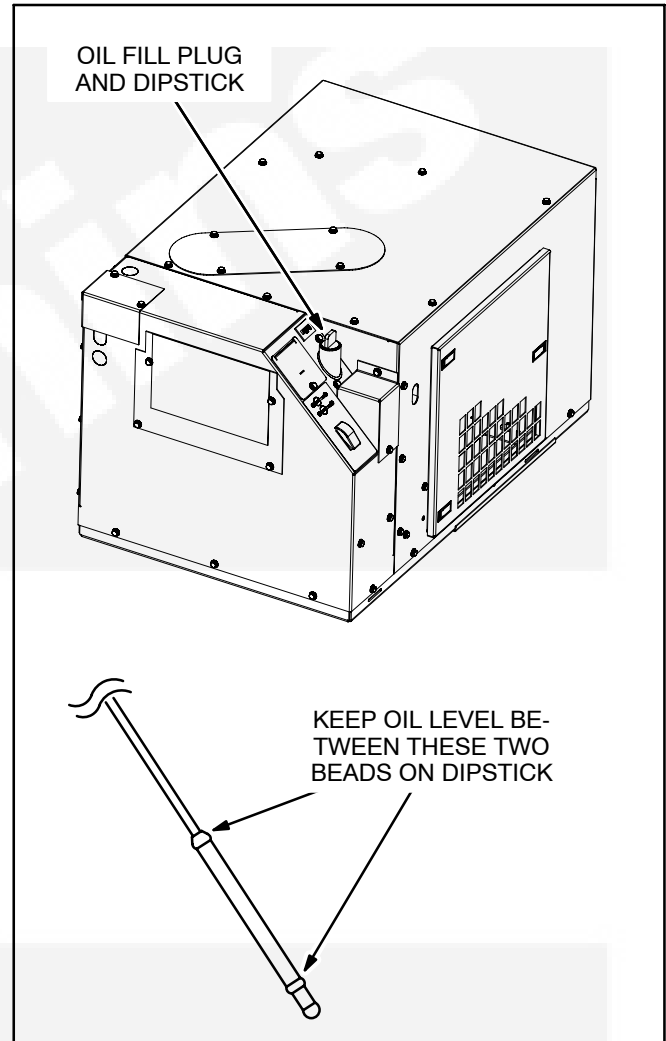

FIGURE 6. CHECKING ENGINE OIL LEVEL
1. Pull the plug and dipstick out of the oil fill neck (Figure 6). The plug may be difficult to pull straight out. It is easier if you tilt the plug in its socket while pulling out. Wipe off the dipstick and thread it back into the fill neck and seat the plug, which snaps into its socket. Remove the plug and dipstick again and check the oil level on the dipstick.